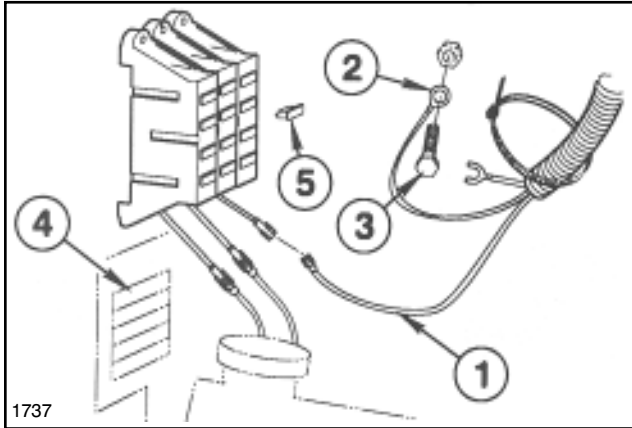

FIG. 4
13. Install (5) Fuse Decals. Connect power wire to available Vehicle Fuse Block lead, and connect ground wire to ground bolt as shown in FIG. 4.